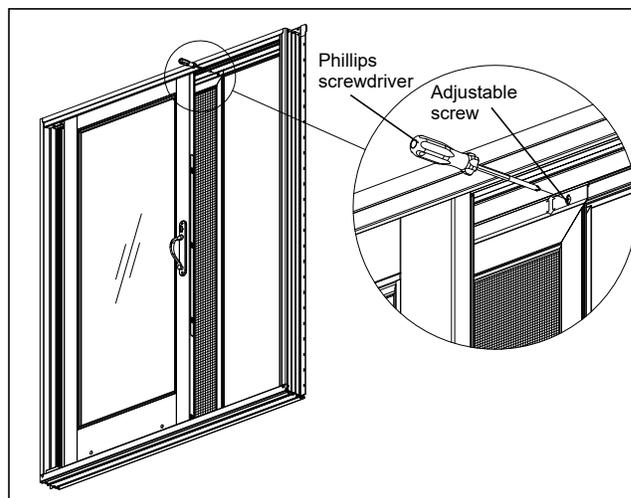

Figure 3
1. Adjustment is possible from the interior by loosening or tightening the top roller screw nearest the locking jamb. Adjust the screen so that it is parallel to the locking jamb or casing to achieve an even reveal along the entire height of the jamb. See figure 3.